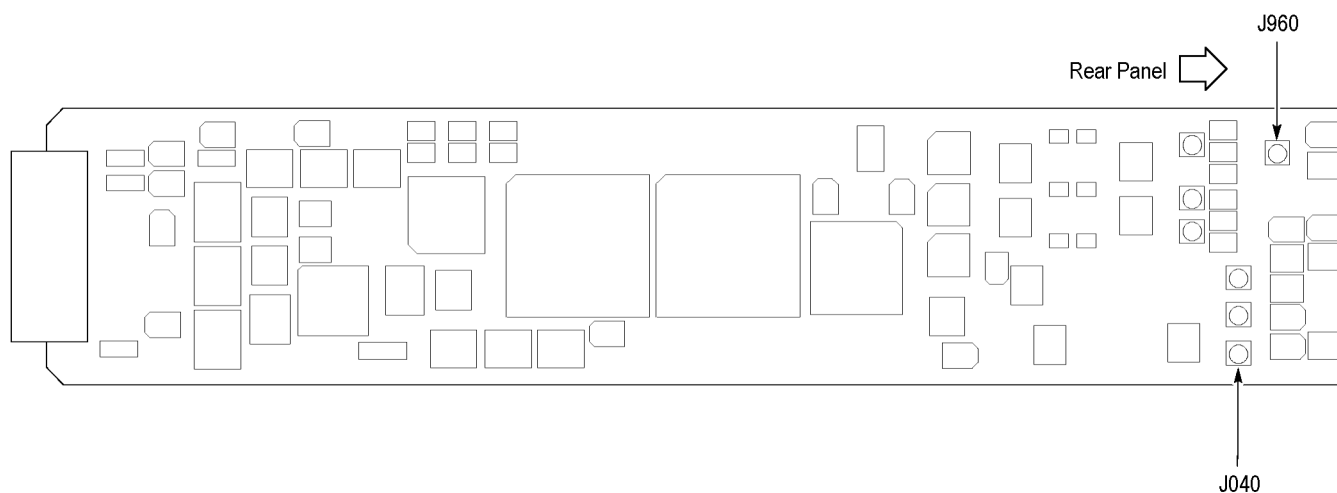

Figure 10: Location of the J040 and J960 connectors
- a. Disconnect the coaxial cable from the connector labeled **J040** on the circuit board. (See Figure 10.)
- b. Reconnect the cable to the connector labeled **J960** on the circuit board. (See Figure 10.)